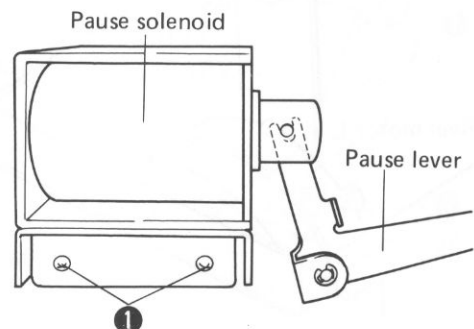

Fig. 7-7 Pause adjustment
2. Loosen screw ① as shown in Fig. 7-7 to obtain a gap of 0.5—1mm between the capstan and pinch roller, and then adjust the mounting position of the pause solenoid.